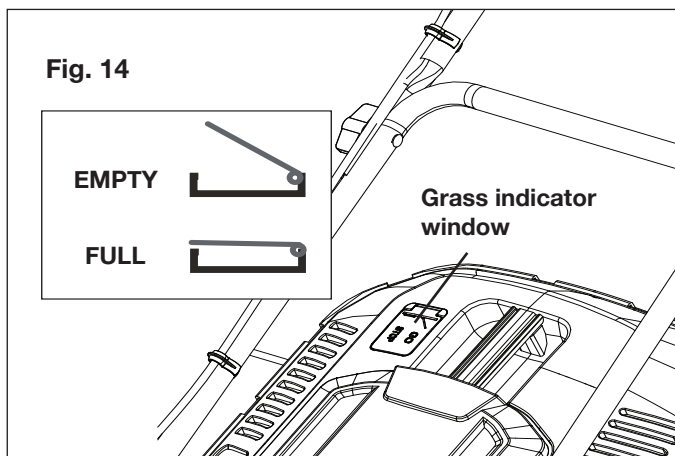

**Fig. 13**
- Let the motor get up to speed, gently lowering the lawn mower down into the cutting position and start mowing (Fig. 13).